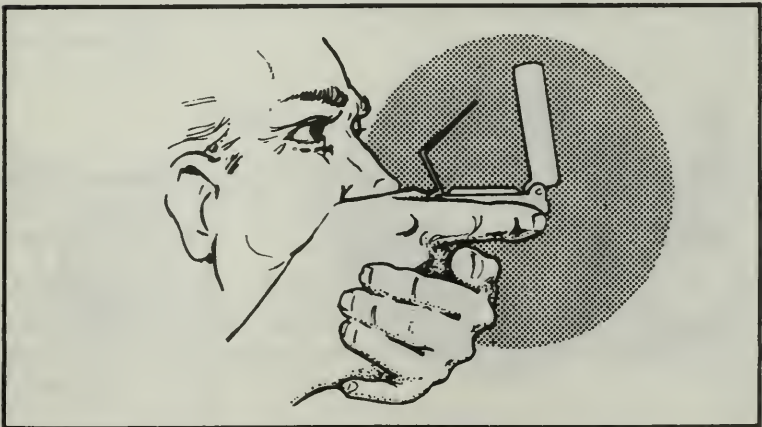

Figure 37. Compass-to-cheek method.
(1) Compass-to-cheek method (Figure 37). To use this method: